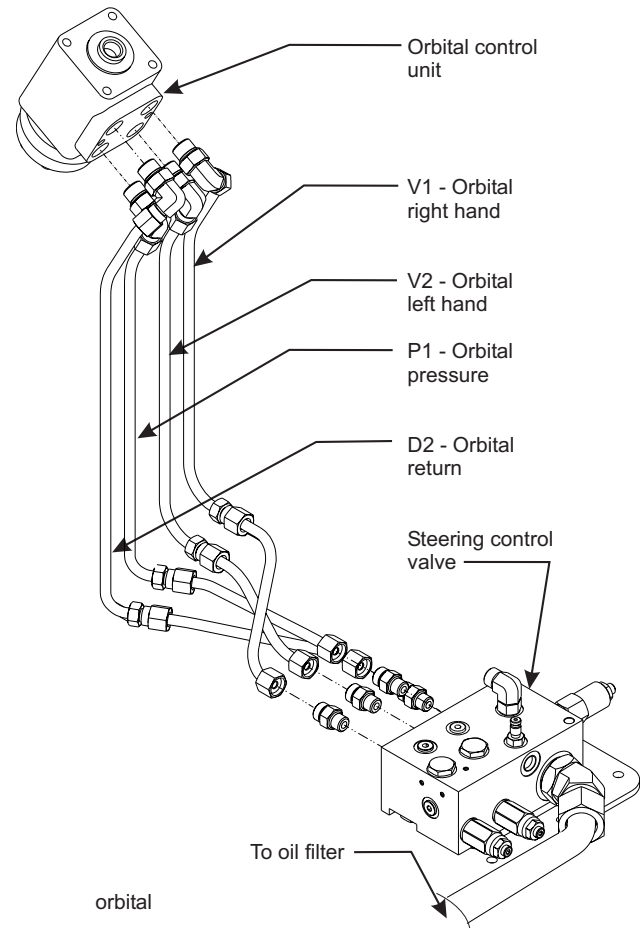

Figure 6-34 Orbital Control Unit
2. Tag the port locations of each hydraulic line and fitting, then disconnect the four lines from the unit (See Figure 6-34).
5. Install the new orbital control unit to the steering column by following the preceding steps in reverse order (See Figure 6-34).